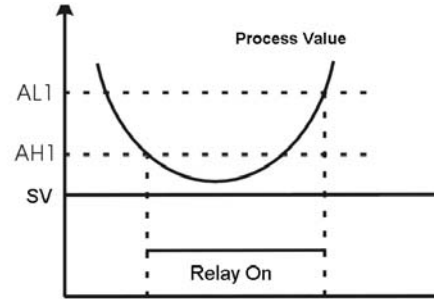

Figure 5
- ③ $AH1 < AL1$ is for absolute low alarm. See fig. 5.